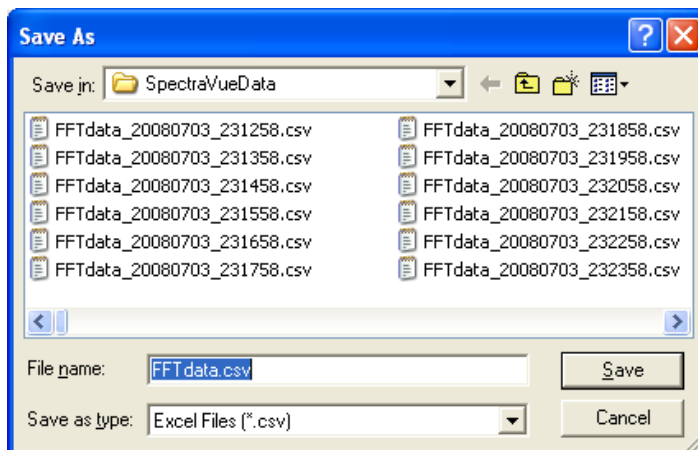

Fig 14: Save File
- With these settings, SpectraVue will save the FFT data files with a time stamp in the desired location as shown in Fig 14 below.